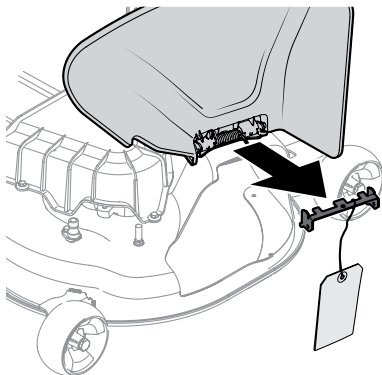

Figure 2-5
- Check the mower deck for a shipping brace that may be holding the chute deflector upward for shipment. If the brace is present, it must be removed before operating the tractor. Holding the chute deflector fully upward, remove the shipping brace. Lower the chute deflector and discard the shipping brace. See Figure 2-5.